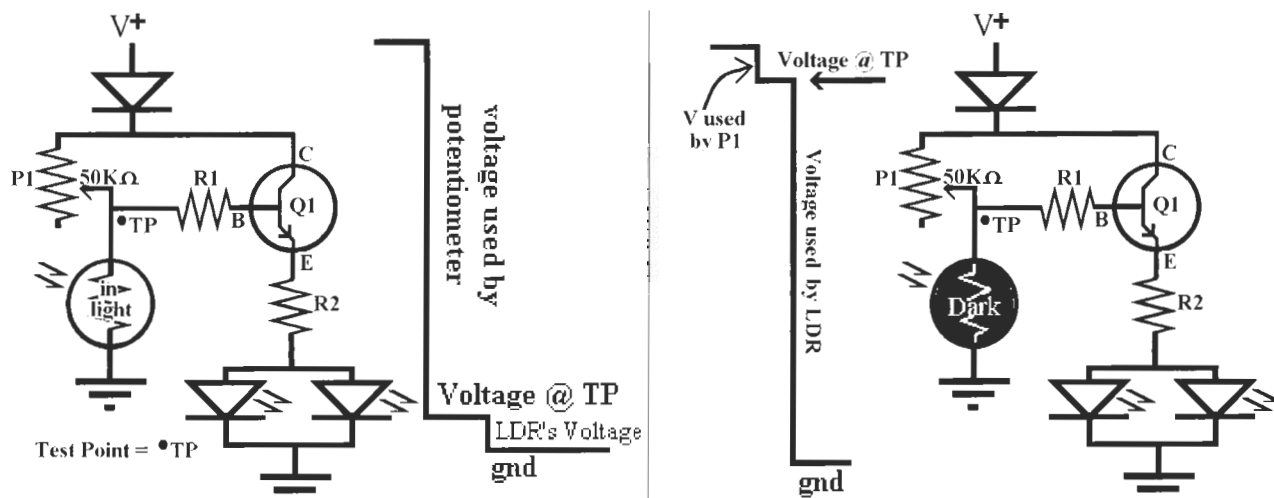

Figure L11-4
2. Now set your circuit under a fairly good light. Now measure and record the voltage at the test point shown in Figure L11-4. _____ V